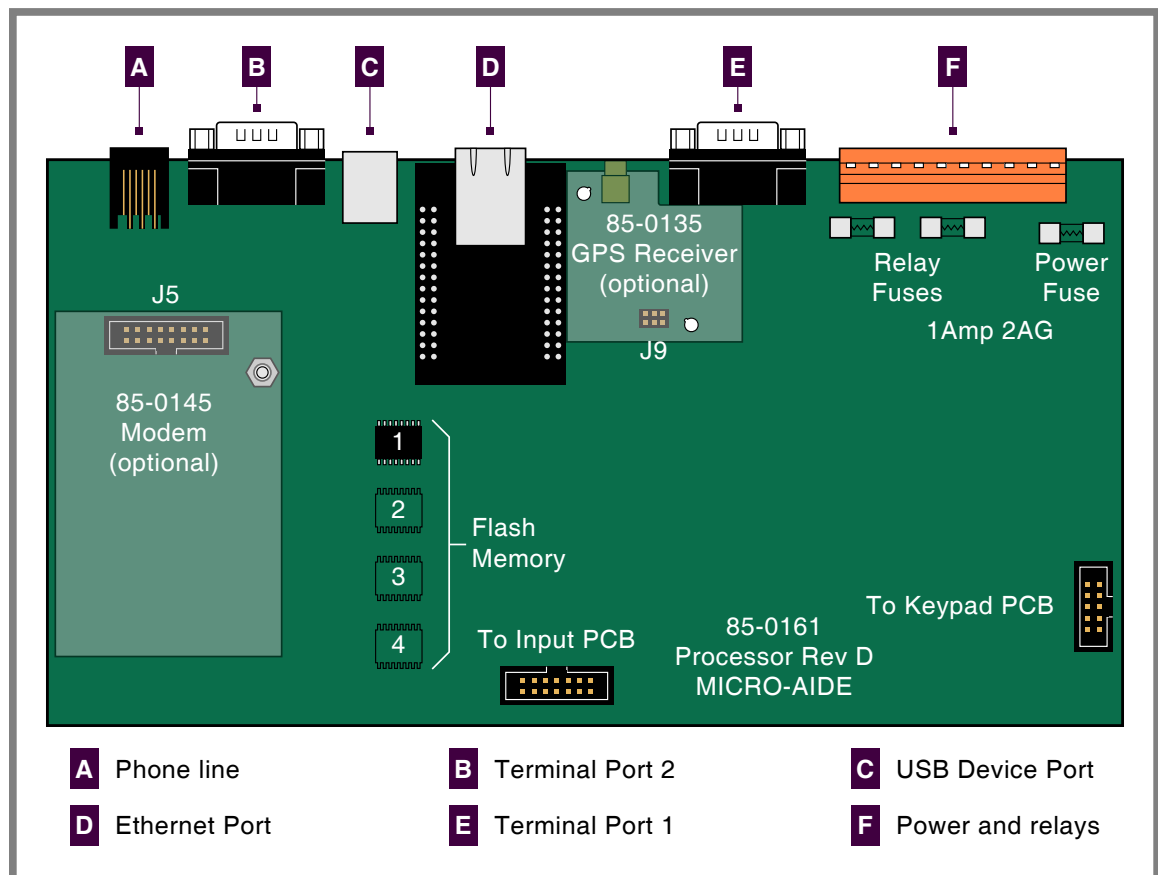

Figure 9: Processor PCB
There are three fuses mounted on the Processor PCB. The fuses are designed to protect the input power source and the contacts of the two output relays. Each are rated at 1 A and conform to the 2AG size standard. Before replacing a fuse the cause of the blown fuse should be ascertained and cleared if possible. The fuses are illustrated in Figure 9 on page 85.
Generally, the GPS Receiver is ordered at the time the recorder is purchased and is pre-installed at the factory. If the receiver was not previously ordered, it can be installed by the user. To install the receiver follow the steps listed in the following. The GPS Receiver PCB is illustrated in Figure 9 on page 85.
3. Locate the 6-pin female socket labeled "J9" near the top-center edge of the Processor PCB. The socket is illustrated in Figure 9 on page 85.
Generally, the modem PCB is ordered at the time the recorder is purchased and is pre-installed at the factory. If the modem was not previously ordered, it can be installed by the user. To install the modem follow the steps listed in the following. The modem is illustrated in Figure 9 on page 85.
2. Locate the 16-pin female socket labeled "J5" along the left edge of the Processor PCB. The socket is illustrated in Figure 9 on page 85.